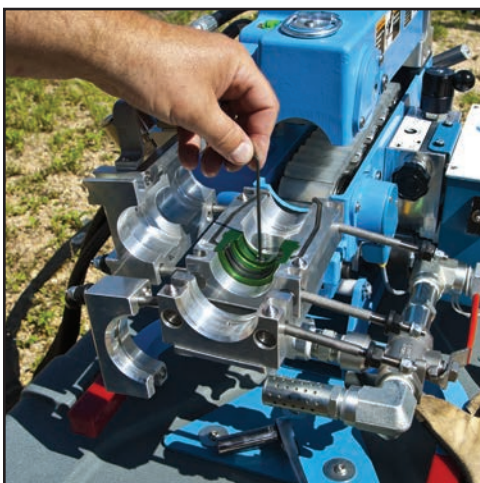

Figure 22. Install Conduit Seal
3. Choose the correct Conduit Seal and install both halves securely. (Figure 22).